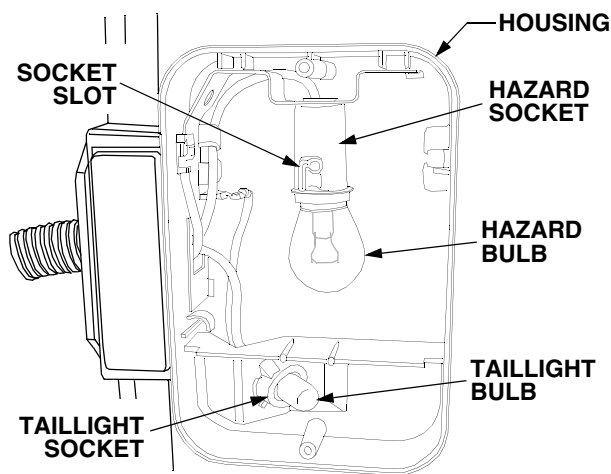

Figure 38
- Remove the taillight bulb by simply pulling the bulb from the taillight socket. Replace with a like bulb. Align the bulb terminals with the socket terminals, and push the new bulb fully into the socket. Refer to Figure 38.
- To remove the hazard bulb, push the bulb upward in the socket and turn counterclockwise to remove the bulb from the light socket. Refer to Figure 38.